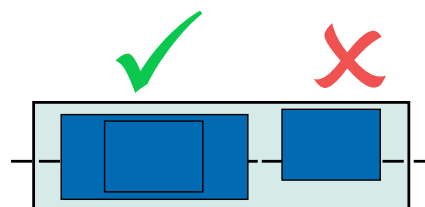

Fig. 3: Place packs on the bases so that the mass is centred.
- Position the packs single file on the centre line of the base longitudinally and laterally. (Fig. 3)